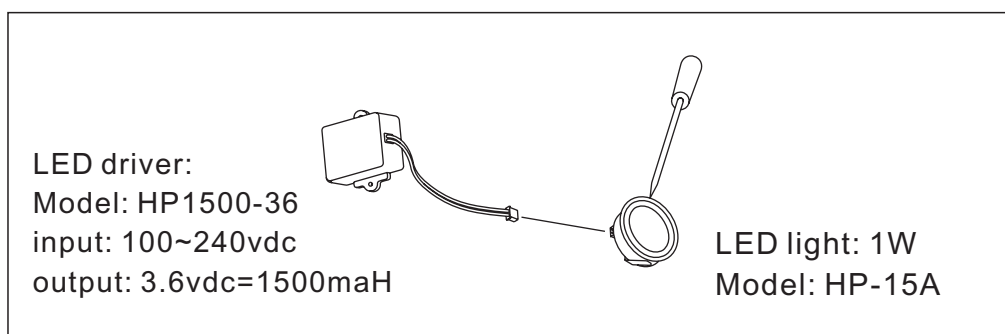

Fig. 6
8. Slide the chimney duct cover into the telescopic stack then push out the inner chimney duct cover to top of telescopic stack fastened by 4 (4×8mm) screws provided. (Fig.6)
Before replacing LED light ensure the unit is switched off, when you want to change the LED light, please always wear working gloves. (Fig.6)